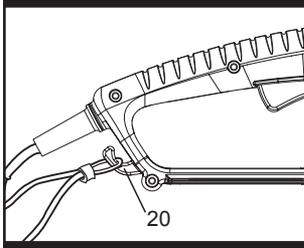

Fig. 16
3. An extension cord retainer (20) is built into the rear handle that prevents the extension cord from pulling out of the handle. To use this feature, simply double the extension cord, about a foot from the end, and insert it into the hole of the handle. Hook the loop formed by doubling the cord over the cord retainer. Gently tug on the cord to ensure that it is firmly retained in the handle. Plug the receptacle end of the extension cord into the tool's power supply cord. (See Fig. 16).